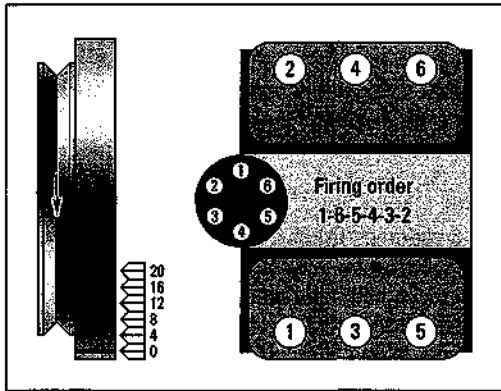

Figure 12-7:
- ✓ Front-wheel drive vehicles with transverse V-type engines have the #1 cylinder up front on the driver's side, with the odd-numbered cylinders proceeding toward the rear, and #2 up front on the passenger side, with the even-numbered cylinders following (see Figures 12-7 and 12-8).